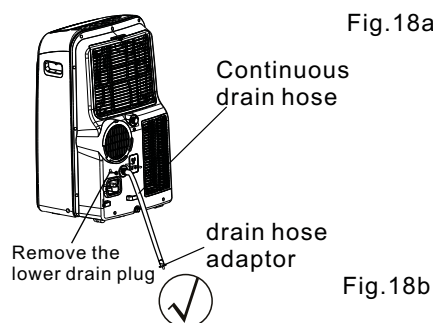

Fig. 18b
- While operating in heat pump mode, remove the lower drain plug from the back of the unit, install the drain connector (5/8" universal female mender) with 3/4" hose (locally purchased). For the models without drain connector, just attach the drain hose to the hole. Place the open end of the hose adaptor directly over the drain area in your basement floor. Please refer to Fig. 18b.